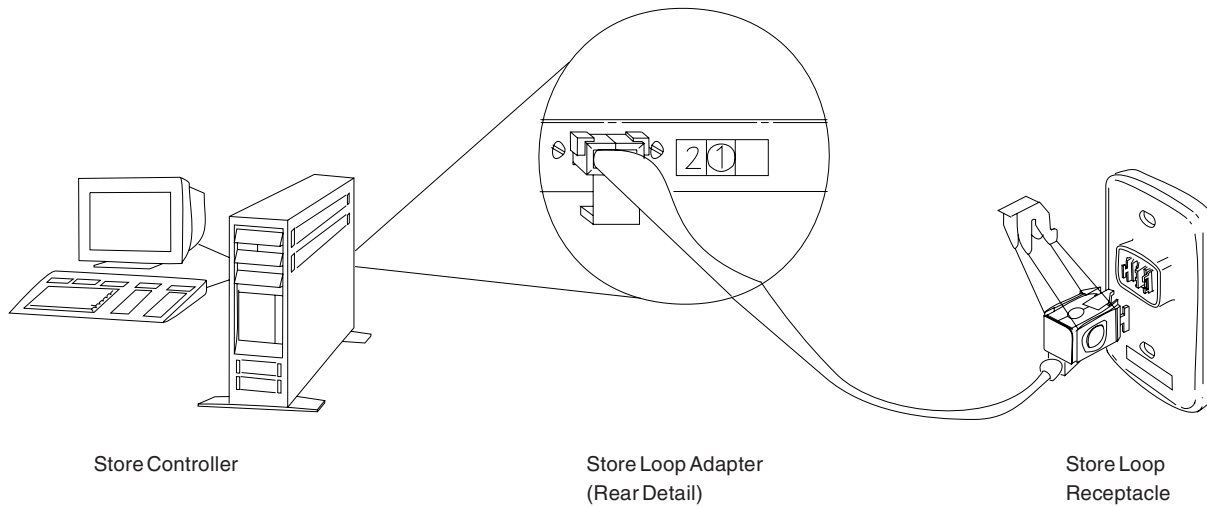

Figure 44. Store Controller Store Loop Adapter and Store Loop Receptacle
- Disconnect the primary store controller from the store loop by unplugging its store loop cable from the store loop receptacle. See Figure 44 on page 532.
- Disconnect the backup store controller from the store loop by unplugging its store loop cable from the store loop receptacle. See Figure 44 on page 532.
- Disconnect this terminal from the store loop by unplugging its store loop cable from the store loop receptacle. See Figure 44 on page 532.
Is the store loop cable plugged into the store loop adapter on the active store controller? See Figure 44 on page 532.